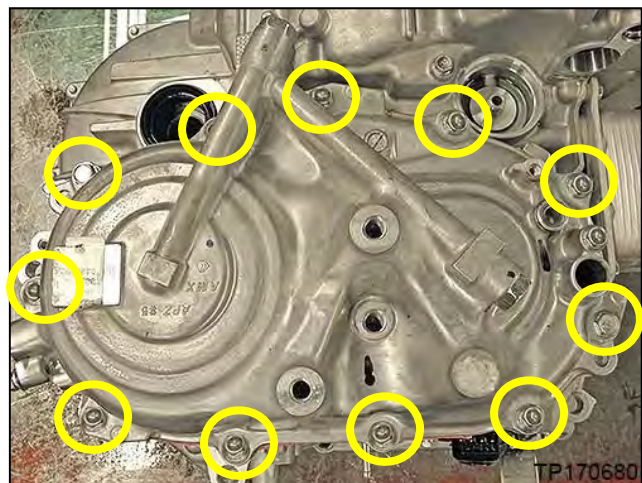

Figure 96
76. Remove the eleven (11) side cover bolts shown in Figure 96.
- Retain two (2) of these bolts. They will be temporarily installed during a later step.